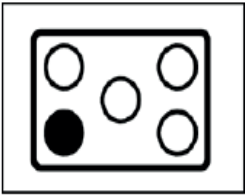

Fig. 6
- Cook-top control panel and use - On the control panel, 4 empty and one fully coloured circles are placed next to each gas cock knob of the cook-top (Fig. 6). The fully coloured one indicates the